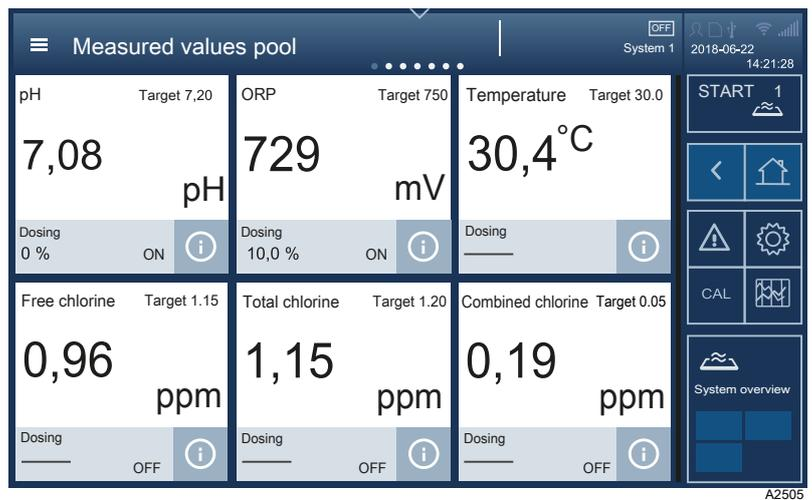
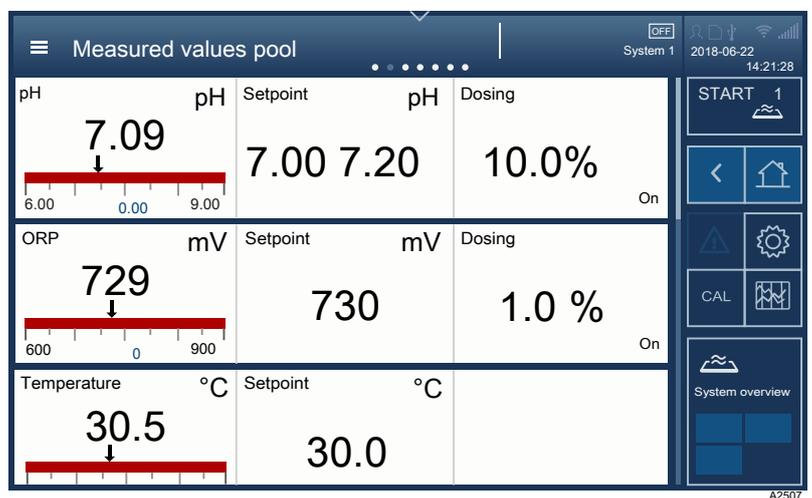

Fig. 48: Measured values interface for the selected pool.
Fig. 49: Measured values interface for the selected pool with detailed information.
1. You can access the application-specific settings via the *[Measured value pool]* menu, Fig. 48 or Fig. 49.